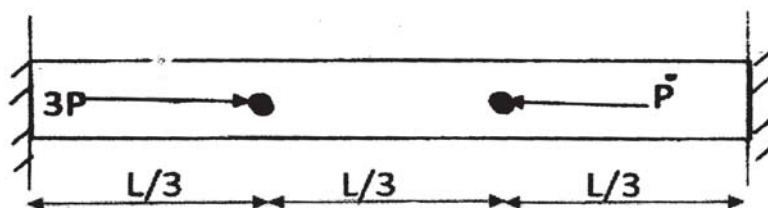

fig1.
- Q4)** The fixed bar shown in fig. 1. has axial forces applied at $L/3$ and $2L/3$. Use FEM to compute the axial deflection and support reaction? **[16]**